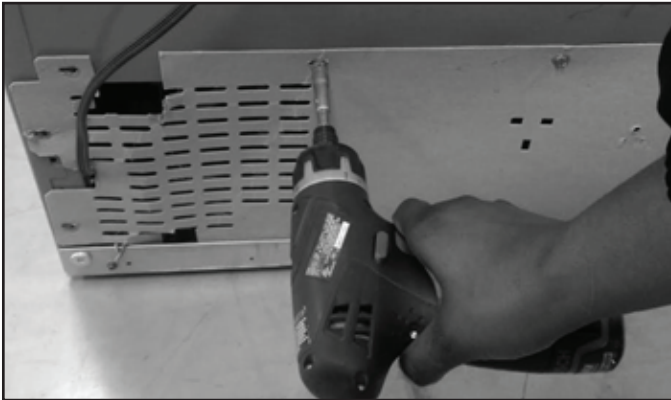

FIGURE 1
2. Using a 1/4" nut driver remove the screws from the machine compartment cover. See *Figure 1*.